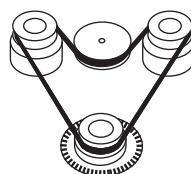

Fig.2 Rubber belt replacement
- Replace the rubber belt (fig.2).